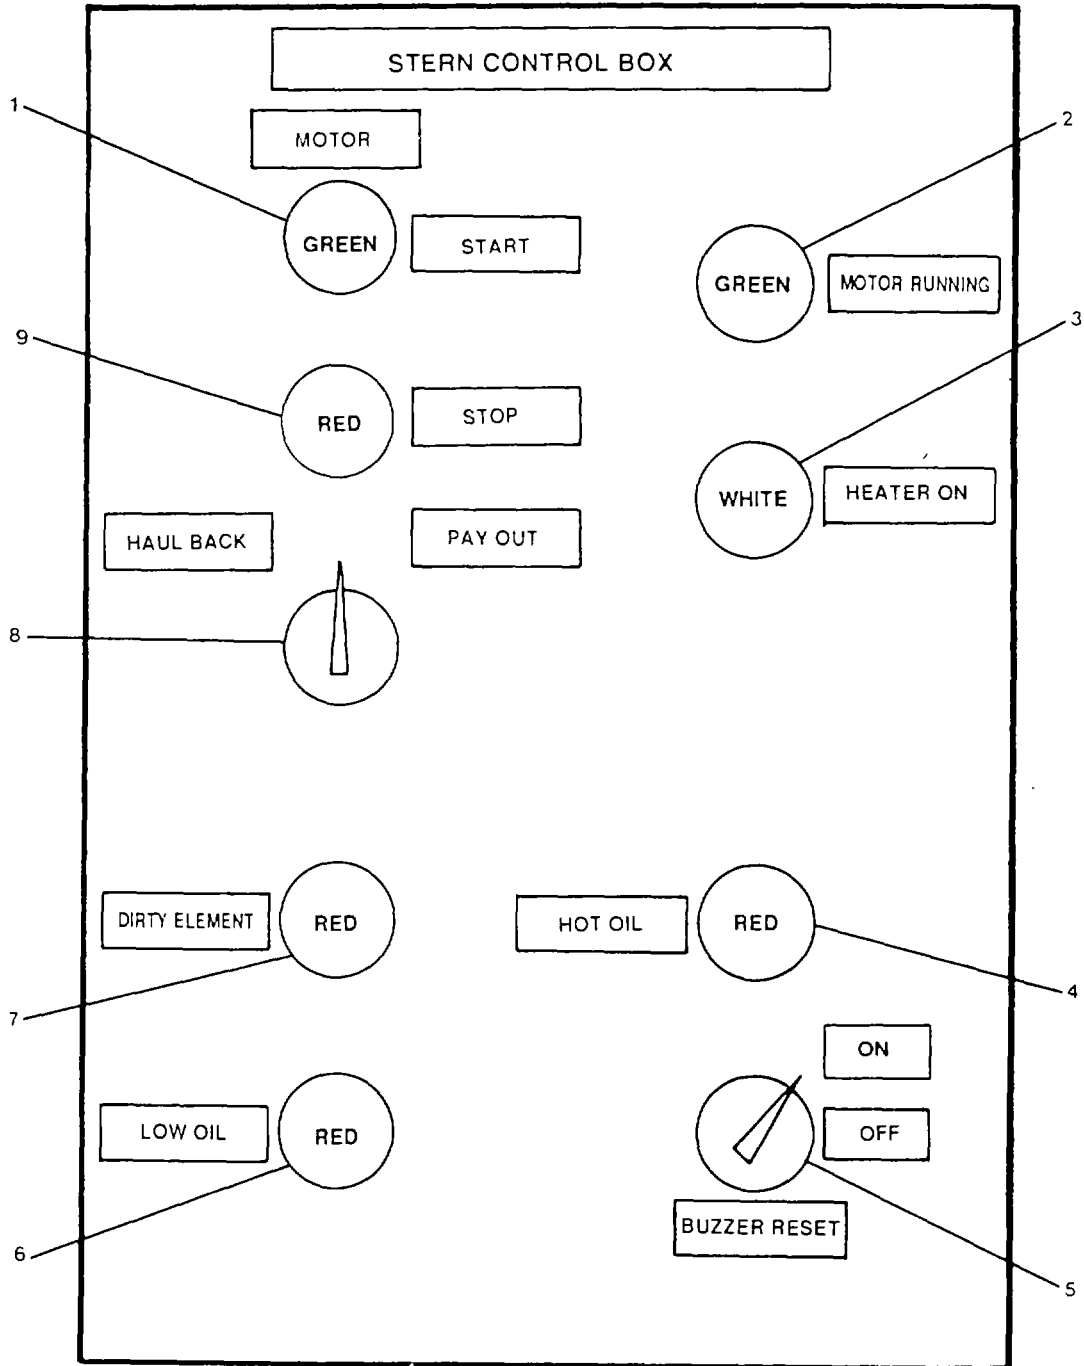

FIGURE 2-3. Stern Anchor Winch Control.
- (1) Momentarily press START pushbutton switch on stern control box. See FIGURE 2-3.
- (2) Observe that MOTOR RUNNING indicator is lit.
- (3) Observe that ac motor is operating. Check motor rotation against the rotation marking on motor/pump housing. Rotation can be reversed if necessary by reversing any two power leads.
- (4) Pump noise and "crackle" are usually caused by air entering pump suction. If such noise occurs, press STOP pushbutton switch to shut down ac motor in hydraulic power pack assembly.
- (5) Secure suction fittings.
- (6) If pump fails to prime, fill pump with hydraulic fluid through outlet (top) port on pump. (See Table 2-1.)